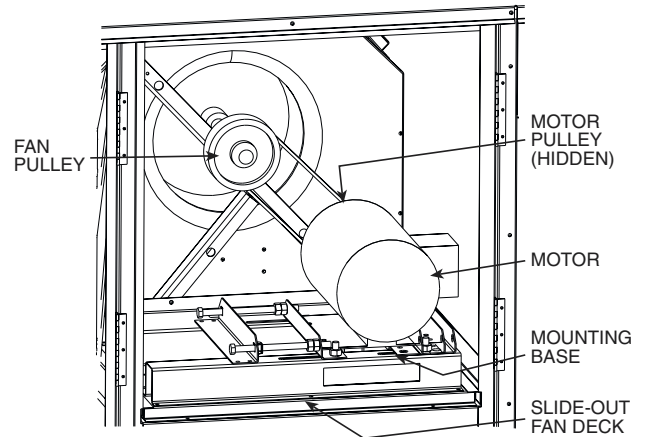

Fig. 32 — Evaporator-Fan Motor Adjustment
3. Remove three no. 10 screws at front of slide-out fan deck. Save screws. See Fig. 32.
IV. EVAPORATOR FAN PERFORMANCE ADJUSTMENT (Fig. 32 and 33)
4. Move motor mounting plate to adjust to proper belt tension. See Table 30. Motor adjuster bolts may be used to tighten belts. See Fig. 32.